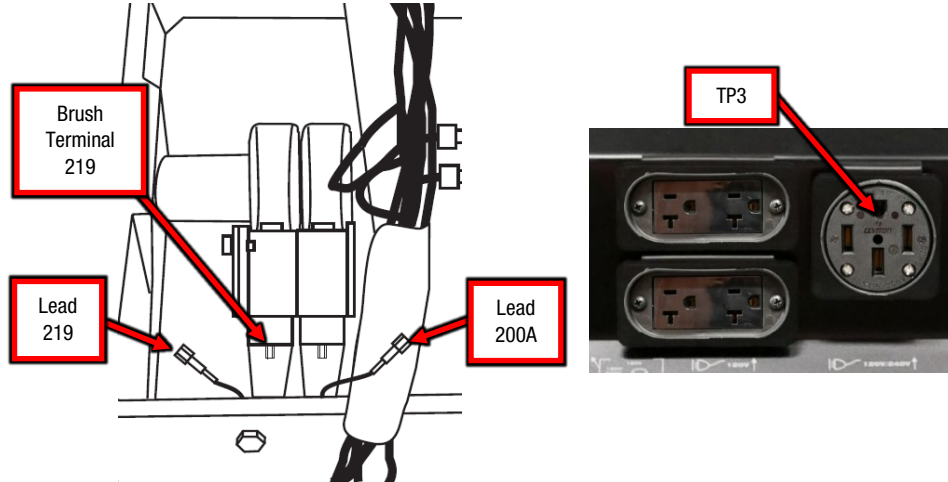

Figure F.4
B.2. Perform the measurements in Test Table 2 below, refer to Figure F.4 for test point locations.